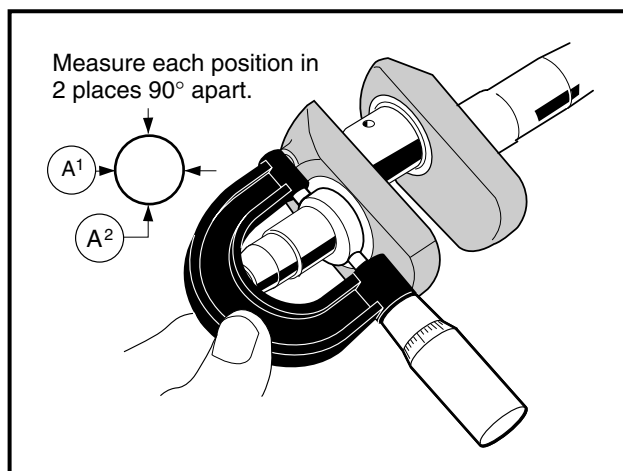

Figure 2-80 Measure Crankshaft Link Rod Journal
4. Use a micrometer to measure the crankshaft link rod journals at several points (**Figure 2-80, Page 2-35**).